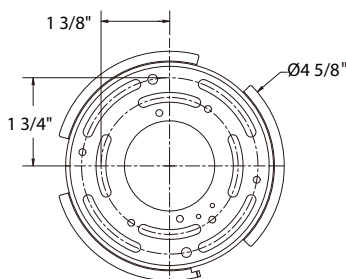
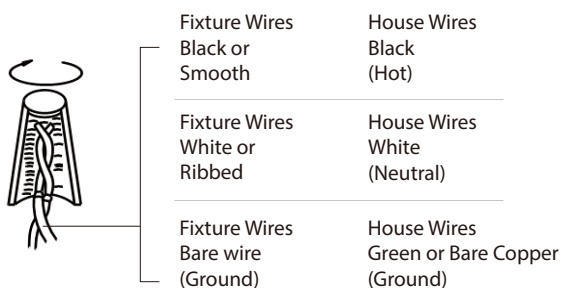

FIG. 2 Wiring
Fig.3 Driver Wires
MOUNTING THE FIXTURE (Fig. 1, Fig. 3)
3. Remove the canopy screw (B) from the ceiling plate.
6. Due to limited space within the canopy, shorten the wires as necessary to make the installation easier. Make sure to identify and label all the wiring properly before any trimming/shortening. (Fig. 3)
WIRING AND HANGING FIXTURE(Fig. 1, Fig. 2, Fig. 3)
7. Connect the driver's input/output wires to junction box wires and fixture wires as shown in Fig. 2/Fig. 3 using wire connectors (A) provided. Ensure all wire connectors are secure. Connect the fixture's ground wire to the ground in the junction box; this will be either a green wire or a bare copper wire. After wires are connected, tuck them carefully inside the junction box.
8. Secure the fixture by mounting the canopy to the ceiling plate. Slide the canopy in the direction of the notch until it latches in place. Fasten the canopy to the ceiling plate using the canopy screw (B).